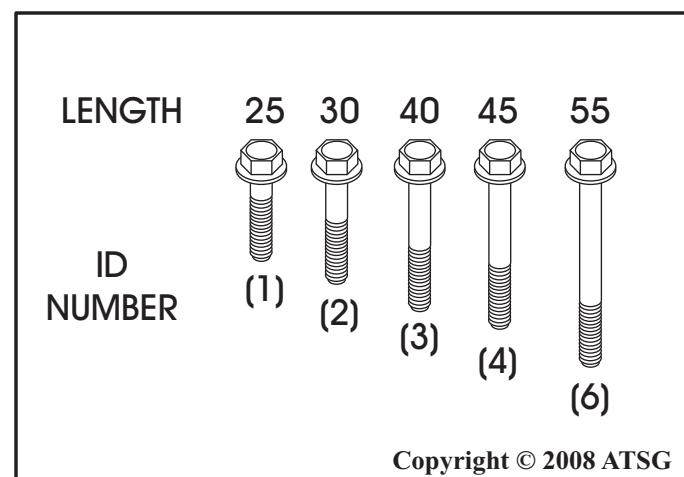

Figure 223
85. There are five different lengths of valve body to case retaining bolts, as shown in Figure 223.